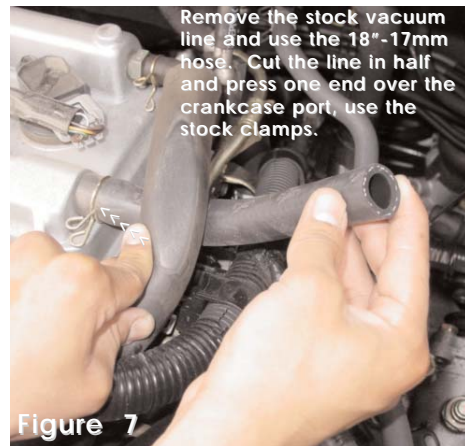
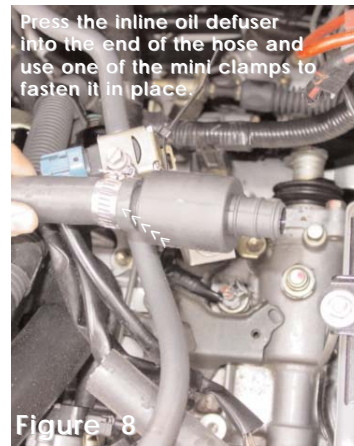

Figure 7
Figure 8
7. Take the 17"- 15mm heater hose and cut it in half. Take one end and press it over the port the port located on top of the crankcase. (See fig. 7) Take the inline oil defuser and press it into the hose on the crankcase port, use one of the mini-clamps. (See fig. 8) Take the remaining hose hose press it over the end on the inline oil defuser and use the mini clamp in this kit. (See fig. 9)